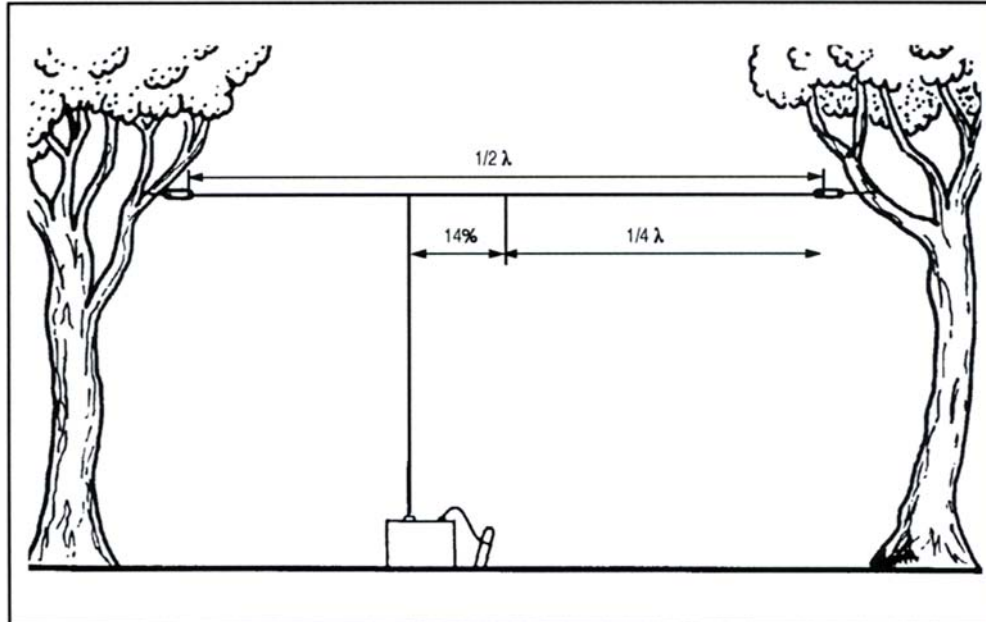

Figure 1. Fourteen Percent Off-Center Fed Antenna
- d. Attach a single wire feeder to the 14 percent mark on the antenna wire as shown in Figure 1.
- e. Attach the guy ropes and insulators to the antenna as shown in Figure 1.
- c. Ground the radio as illustrated in Figure 1.